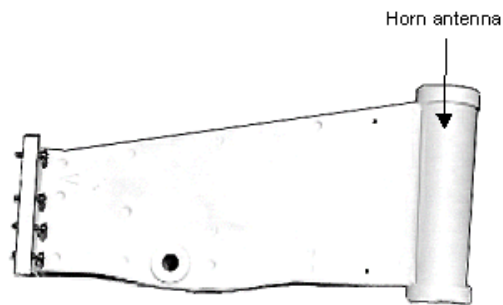

Figure 4-5: Horn Antenna
4. Install the antenna shown in Figure 4-5 onto the RFU/adapter. Use the antenna guide pins (2) to align the antenna to the RFU/adapter. Press firmly into place.